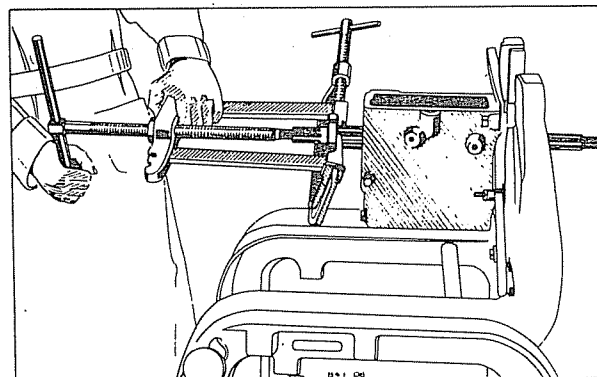

Fig. 3—Removing Mainshaft Rear Bearing with Puller C-549.
- (1) Place the transmission in a fixture and drain the oil.
- (2) Remove the transmission cover and gear shift assembly.
- (3) Remove the nut on the end of the transmission main shaft and pull off the universal joint flange and brake drum, using Puller C-452.
- (4) Remove the speedometer drive pinion and seal.
- (5) Disconnect the handbrake rod at the band and remove the horseshoe clip which anchors the handbrake linkage to the transmission.
- (6) Remove the cap screws which hold the brake support to the transmission case. Lift off the support, oil seal, and handbrake assembly.
- (7) Remove speedometer drive gear.
- (8) Remove the main drive gear bearing retainer.
- (9) Pull the mainshaft and gear assembly out of the rear of the case far enough to remove mainshaft rear bearing (Figure 3).